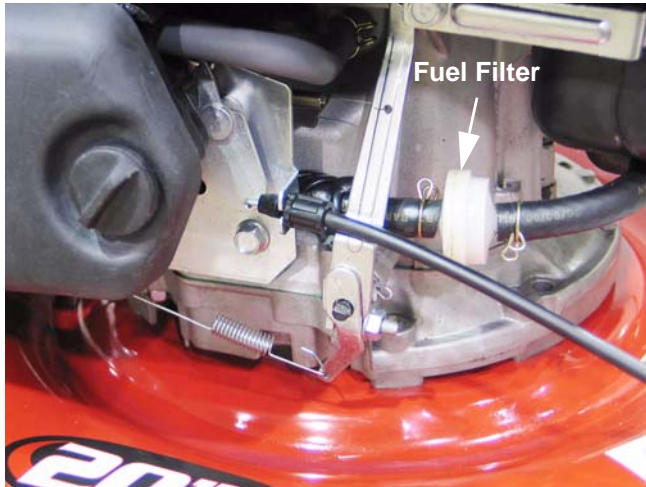

Figure 1.7
1. Some of the early engines were equipped with a fuel filter placed between the fuel tank and the carburetor. See Figure 1.7.